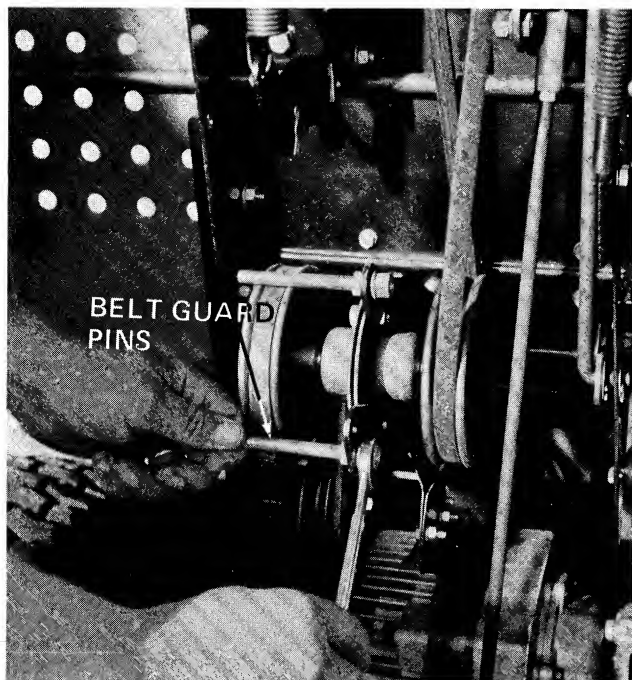

FIGURE 22
4. Remove the two belt guard pins on the pulley assembly. See figure 22.